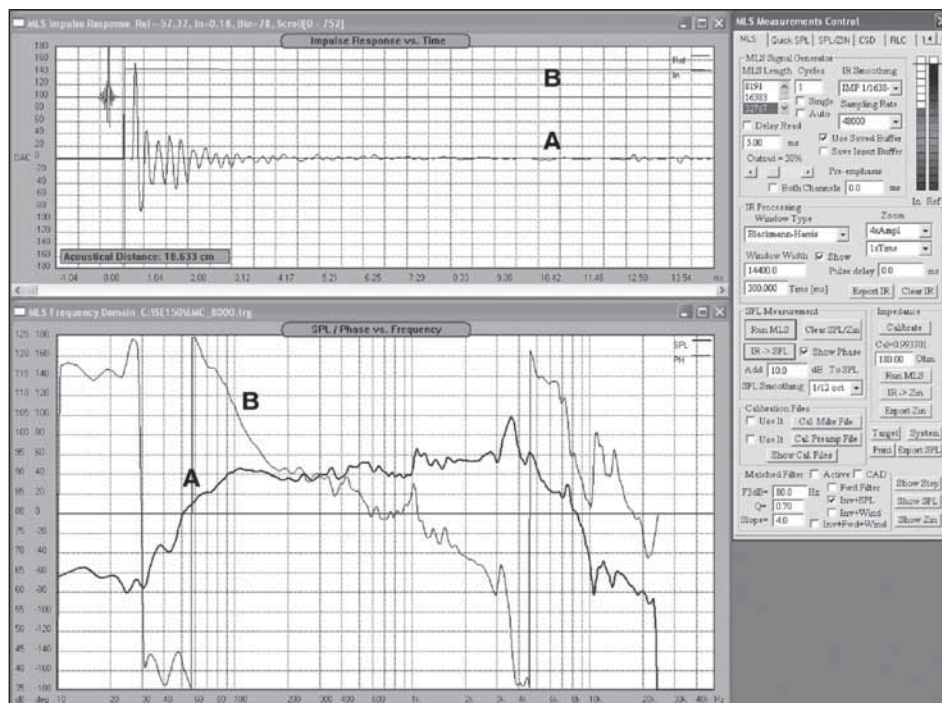

FIGURE 1: Measured system's magnitude (A) and phase (B).
To illustrate this, I measured a 12" guitar loudspeaker in a vented box. Its minimum-phase (MP) responses were obtained with the help of an MLS measurement technique (Fig. 1). It is immediately observable that the loudspeaker